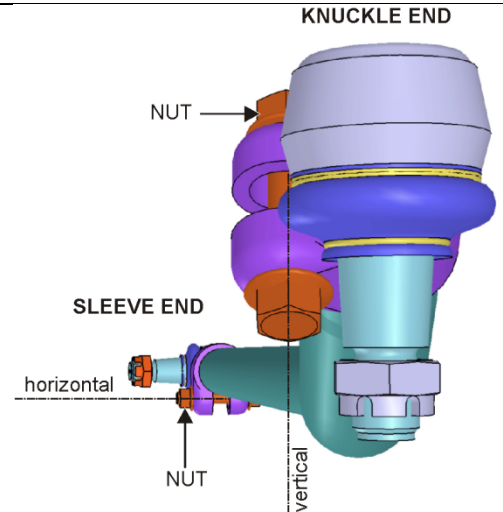

FIGURE 11: NOTE THE HORIZONTAL ORIENTATION OF THE CLAMP BOLT AT THE SLEEVE END AND ON WHICH SIDE THE NUT MUST BE POSITIONED
14. Once the proper length adjustment is done, tighten the front end ball joint clamp. To prevent interference between the ball joint clamp bolts with other components of the steering system, the clamp bolt must be positioned horizontally as shown on FIGURE 11. **Tighten the clamp nut to 118-133 lbf-ft.**